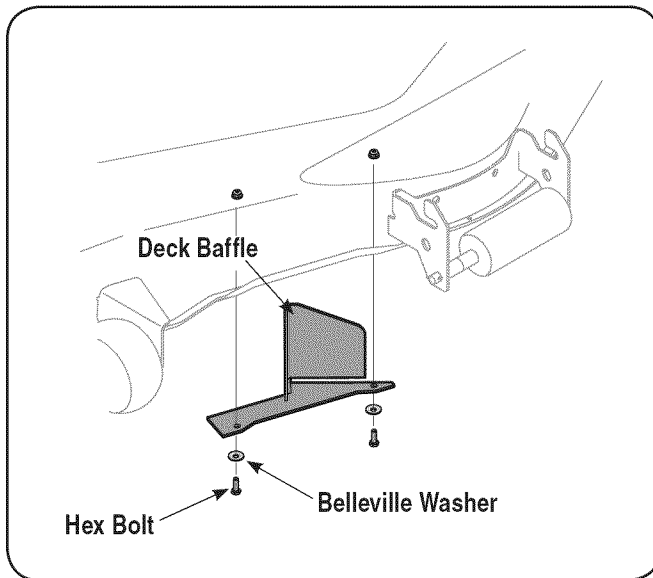

Figure 4-17
- Install the deck baffle (703-05783) included with the loose parts to the underside of the mowing deck using two 710-3015 hex bolts, 736-0270 Belleville washers and 712-04064 flange lock nuts from hardware pack 689-00094A, as shown in Fig. 4-17.